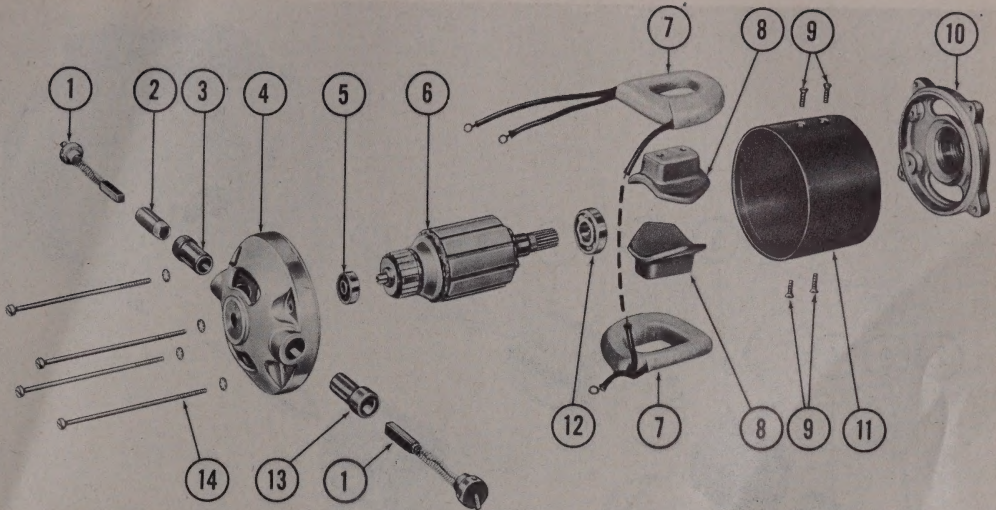

Figure 329 — Exploded View of Motor Assembly
(d) (See figure 329.)—Remove the four motor through bolts (14) which hold the pinion end frame (10) and the commutator end frame assembly (4) together; with a soft hammer, tap these frames loose from the field ring assembly (11). (In some motors the end frames are held to the field assembly by eight screws.) Remove the round-head screw which attaches the grounded end of the field coils (7) to the com-